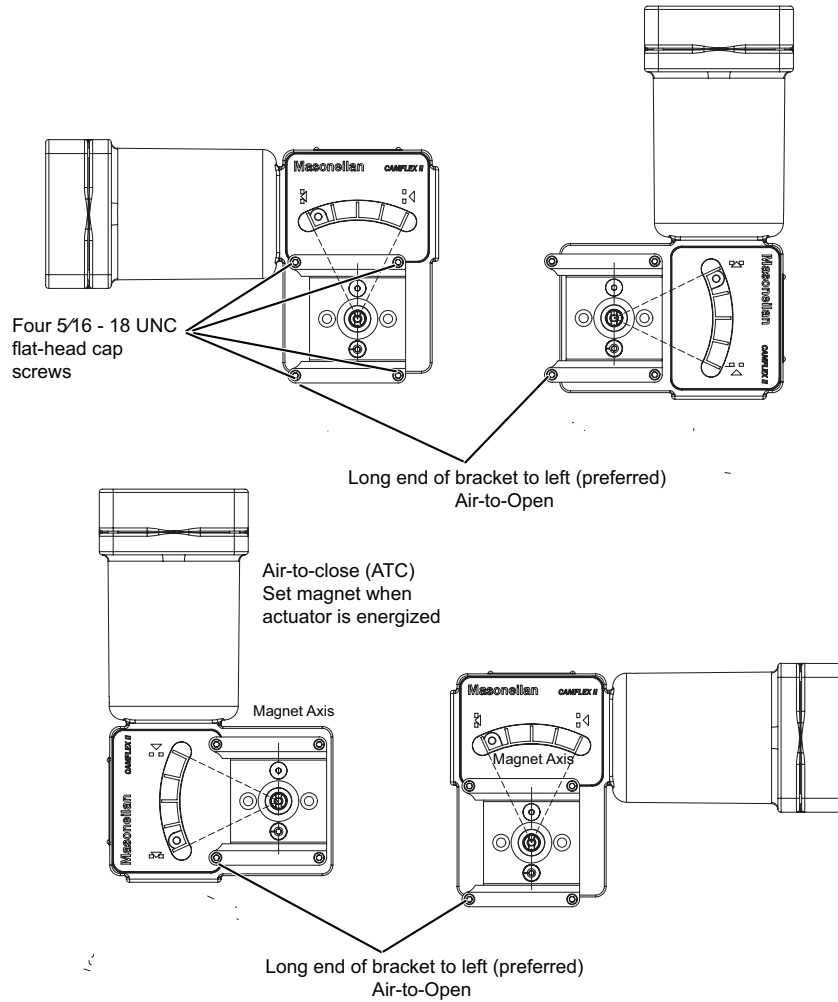

Figure 8 - Camflex II Rotary control valve ATO and ATC Mounting
1. Attach the SVI3 rotary mounting bracket to the valve actuator with two 5/16 - 18 UNC flat-head cap screws and tighten using 3/16" Hex Key as shown in Figure 8.
5. Rotate the magnet holder so that the magnet axis is vertical when the valve is in the closed position (see Figure 8). Table 2 shows the general guidelines for travel sensor alignment. Review the table prior to installing the SVI3 on a rotary valve actuator for proper alignment of the magnet.